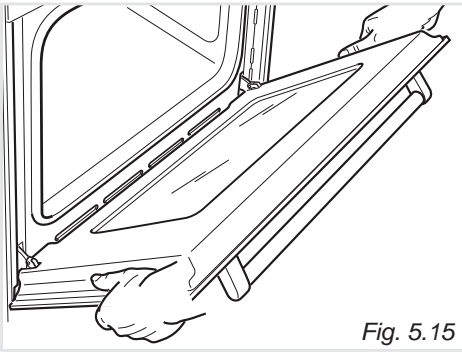

Fig. 5.15
- Hold the door as shown in fig. 5.15.
- Hold the door firmly (fig. 5.15).